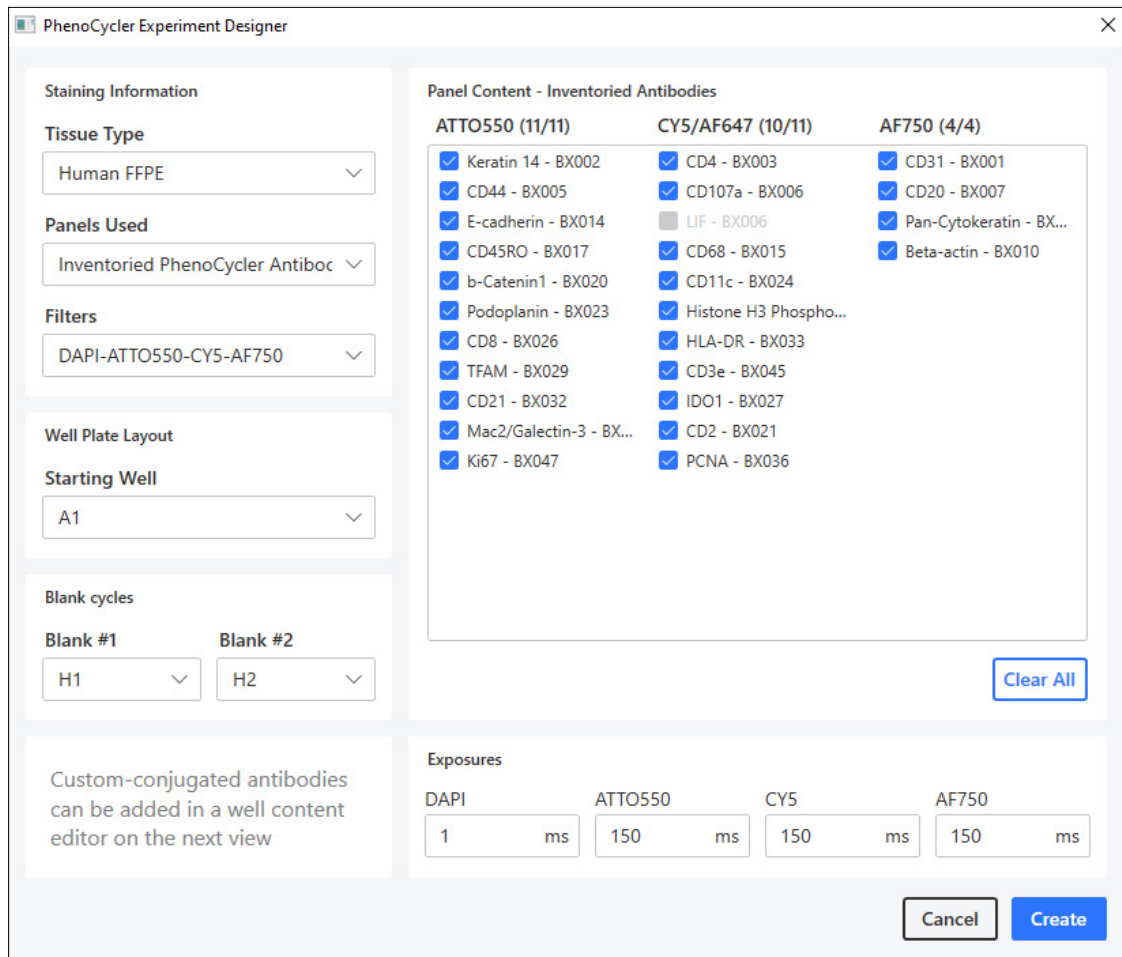

FIGURE 4-7: Experiment Designer Screen
5. On selecting Next, Experiment Creator screen displays (see FIGURE 4-7). Define the Staining Information, Panel Content, Starting well, the two blank wells, and exposure times for each channel on this screen.